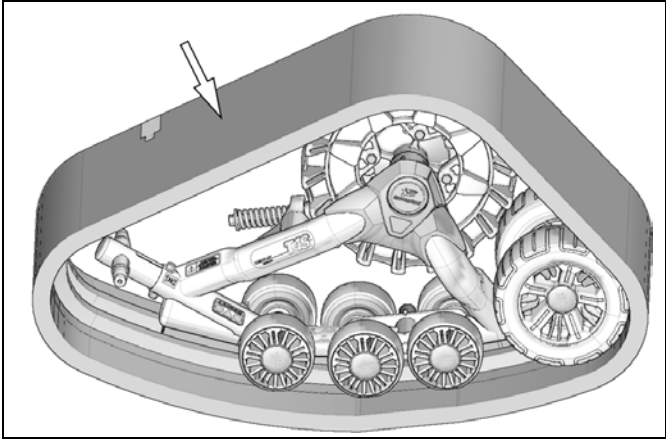

Figure 35
- Install the rubber track. See Figure 35.